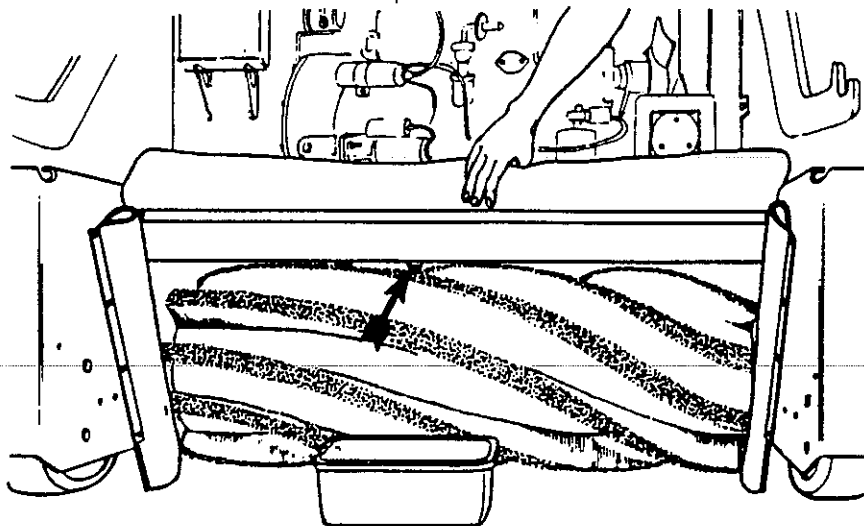

Figure 4-56. Oil Drain Plug
2. Remove the drain plug and allow oil to drain into the pan, see figure 4-56.